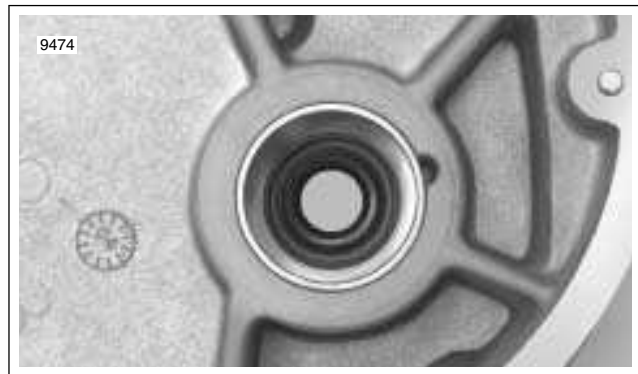

Figure 6-26. Install Jackshaft Lip Seal with Open Side of Seal Carrier on the Clutch Side
- With the open side of the seal carrier facing up, place lip seal in the jackshaft bore. See Figure 6-26.